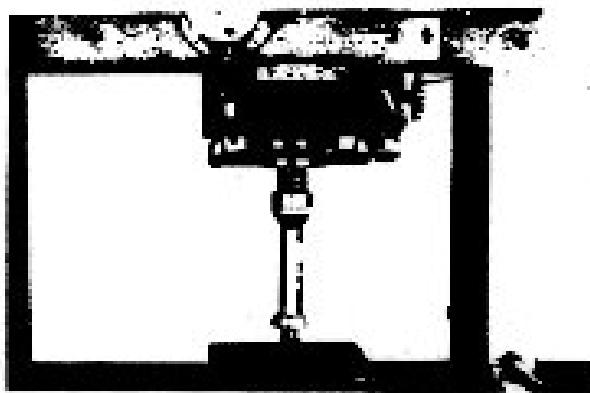

Fig. 4-4.
- 11) Installation of the front and rear bearing inner races necessitates the use of the special tool (09913-80111) as shown in the Fig. 4-4.